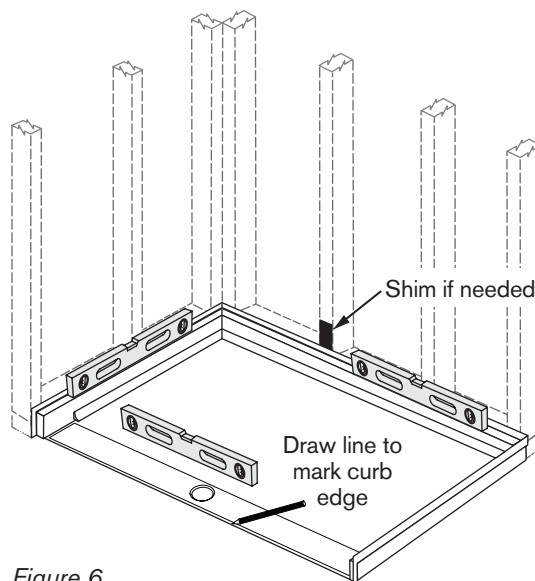

Figure 6
- 3 DRY-FIT THE PAN:** Set pan in the pocket. You **MUST** either dry-fit the shower walls or use a level to ensure pan is level, without low spots, and positioned correctly. Shim if necessary. Draw a line on the floor along front edge of pan. (Figure 6)